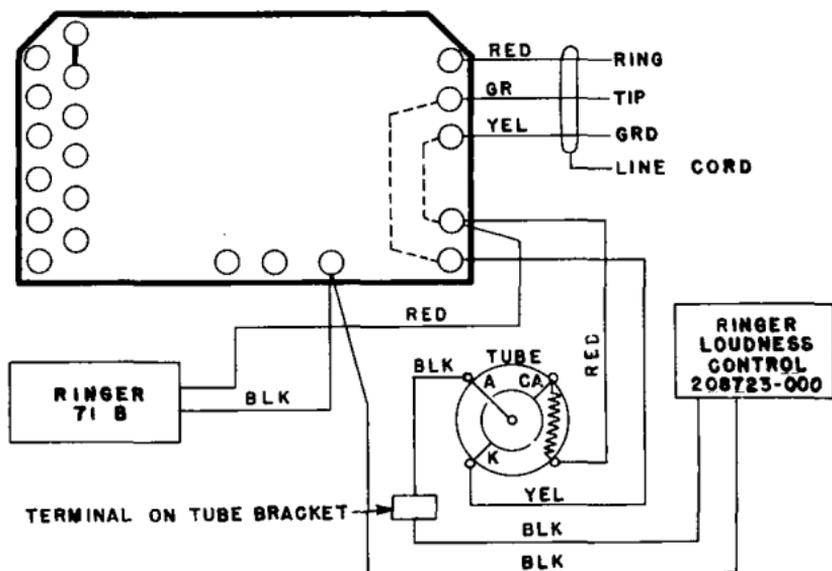

Figure 16. Wiring Diagram for -Tip and -Ring Station, Using 1543 or 1543 Two-Step Telephone.
(2) Connect the line cord from the telephone instrument to the terminal block as follows: Green lead to terminal G, red lead to terminal R, and yellow lead to terminal Y for *ringing on ring*; or green lead to terminal R, red lead to terminal G, and yellow lead to terminal Y for *ringing on tip*.
c. Divided Ringing, Plus or Minus Ringer Selection, Using 372A, 333A, or 426A Tubes. All 1543BT telephones are shipped from the factory wired for $-$ tip station (figs. 16 and 18). For a $-$ ring, $+$ tip, or a $+$ ring station, make the following wiring changes:
(1) $-$ ring station (figs. 16 and 18). The internal wiring of the telephone instrument remains the same; however, the ring of the line is connected to terminal L2, and the tip of the line is connected to terminal L1 (1543, 1543 two-step, and 1543W).